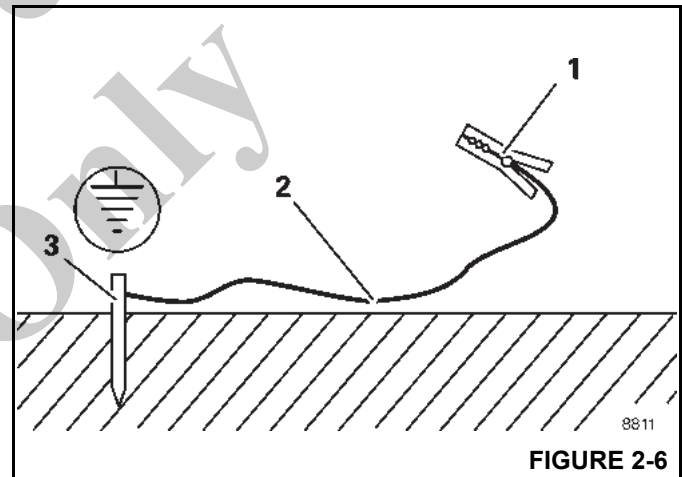

FIGURE 2-6
1. Hammer a metal rod (3, Figure 2-6) (length of approximately 2.0 m (6.6 ft)) at least 1.5 m (5 ft) into the ground.
2. Moisten the soil around the metal rod (3) for better conductivity.
3. Clamp an insulated cable (2) to the metal rod (3), cross-section of at least 16 mm² (0.025 in²) (AWG 5).
4. Connect the free end of the cable with a clamp (1) to a good electrically conductive location on the frame.